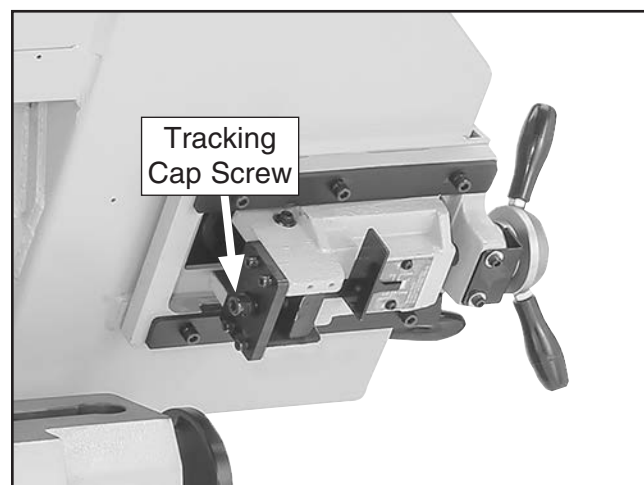

Figure 90. Location of tracking cap screw.
6. Adjust tracking cap screw (see **Figure 90**) until blade tracks properly.